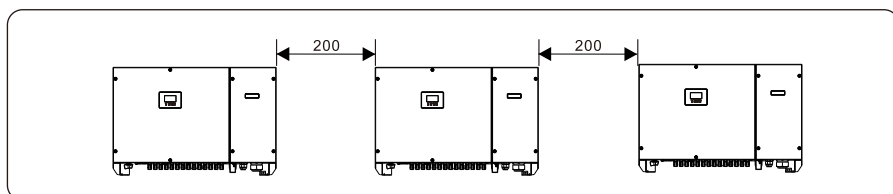
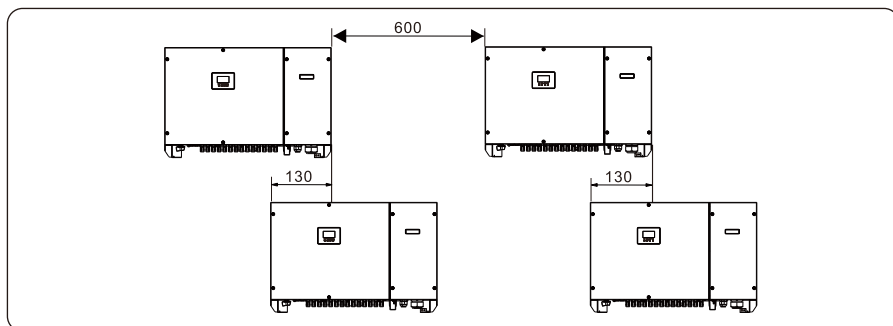

Figure 4.5 Installation along the same line (unit: mm)
Figure 4.6 Installation in stacked mode
- c. c. When installing multiple inverters, install them along the same line (as shown in Figure 4.5) if sufficient space is available, and install them in triangle mode or in stacked mode (as shown in Figure 4.6) if no sufficient space is available. The installation modes ensure sufficient space for installation and heat dissipation.